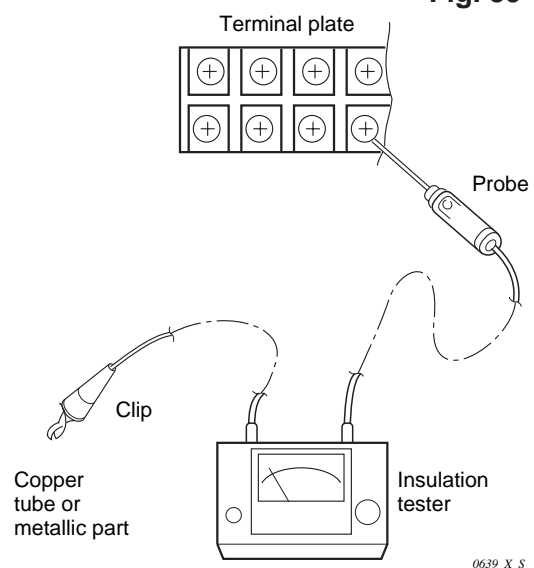

Fig. 40
Clamp an aluminum plate fin or copper tube with the lead clip of the insulation resistance tester and measure the resistance by placing a probe on high voltage terminal on the terminal plate (Fig. 40)
(Fig. 40)
Clamp a metallic part of the unit with the lead clip of the insulation resistance tester and measure the resistance by placing a probe on ⑤ and then ⑥, and then ⑦ on the 8P terminal plate. (Fig. 40)